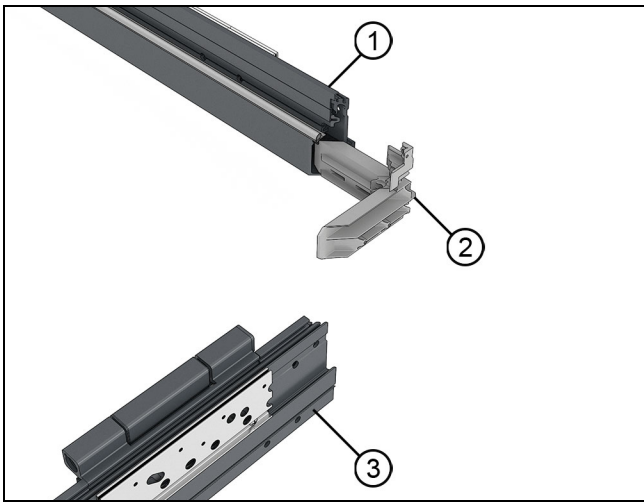

Figure 14 Insert head jamb corner key
3. Insert the head jamb/jamb corner keys into the ends of the head jamb frame. See Figure 14.